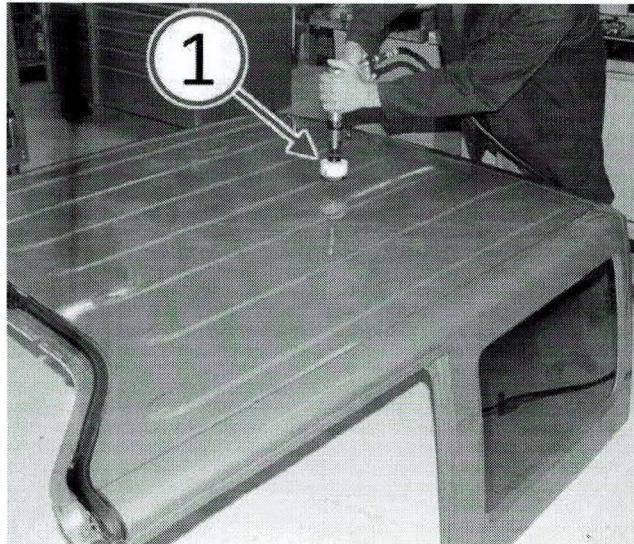

Fig. 5 Destroy Defective Hard Top To Prevent Reuse
4. To prevent reuse, structurally destroy the defective hard top by drilling two holes approximately 2 in. diameter or larger through roof surface (Fig. 5).